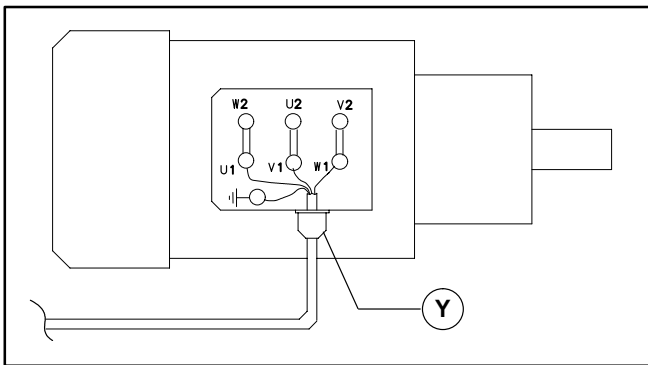

Figure 16
b. Record wire colors on terminals U1, V1, W1 and ground (\perp) (Figure 16). Loosen terminals U1, V1, W1 and ground and remove wires.
- c. Loosen cord grip (Y of Figure 16) and remove cord.